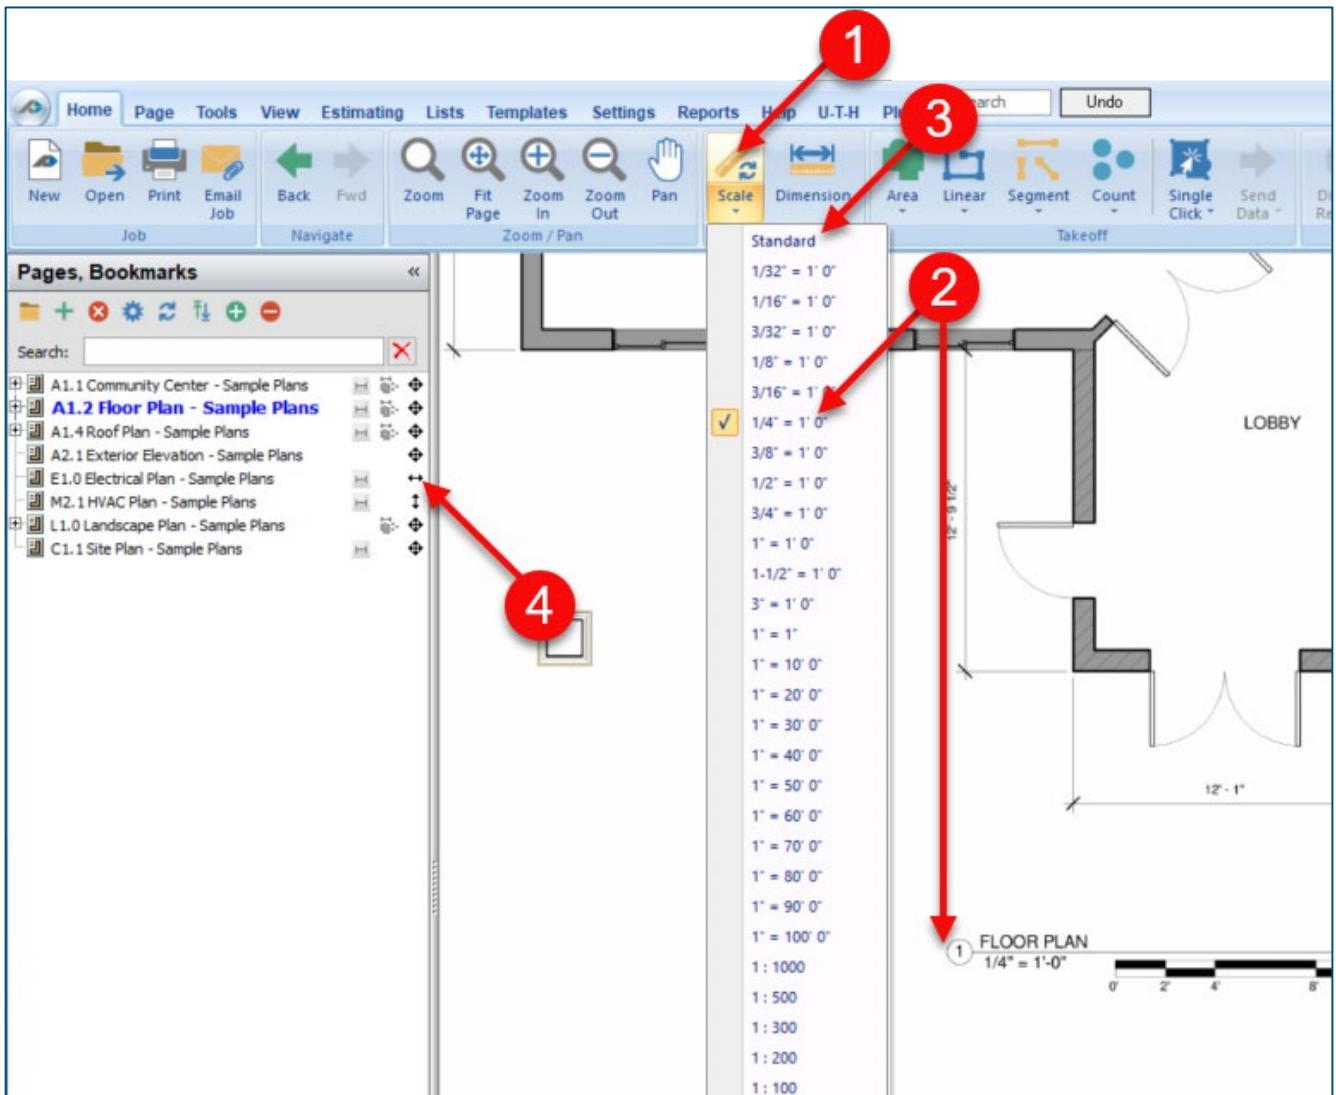

Figure 2-A
- Once the scale is set, it is highly recommended that you verify known dimensions—both horizontally and vertically—on each page to ensure the scale is set correctly. To verify the scale, the dimension tool is required. Click on the **Dimension** button, then, using the crosshairs for alignment, click on two **Points** of a marked *vertical* dimension (see Fig. 2-B), and a red dimension line and its measurement will appear.